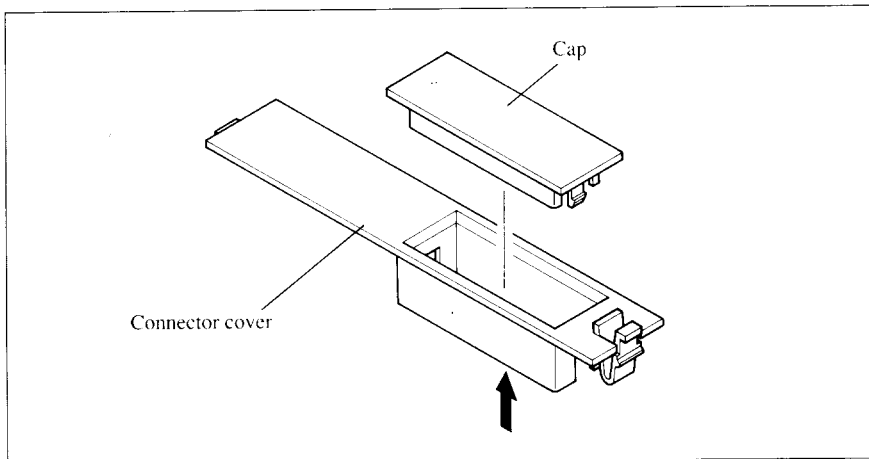

Figure 7-19. Push out the cap from the connector cover.
3. Push out the cap from the connector cover, as shown in Figure 7-19.